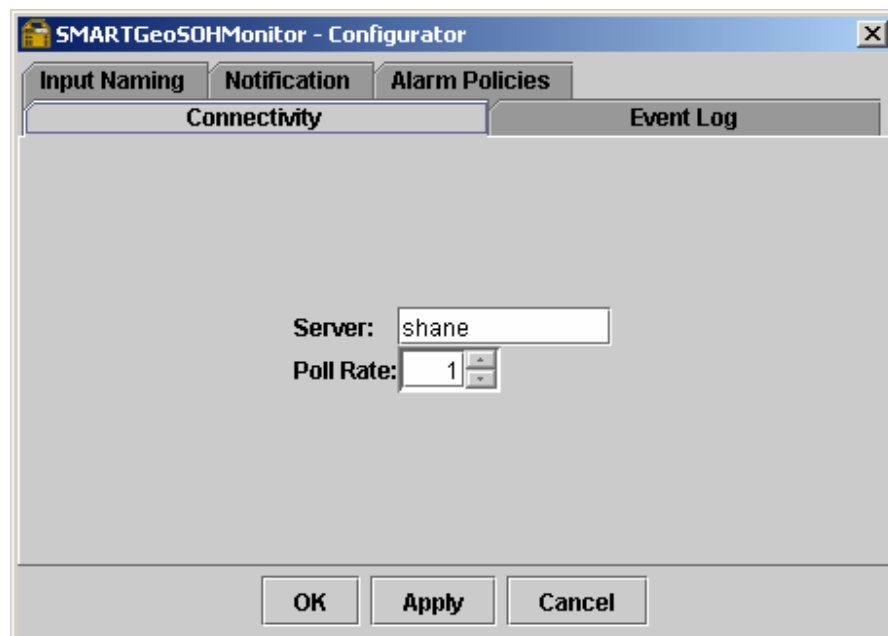

Figure 3-3. Connectivity Window
The Connectivity window (Figure 3-3) allows the user to select the Internet Protocol (IP) address or computer name where the SMARTGeoHub® DataBase resides. The SMARTGeoHub® DataBase receives the SMART-24 Digitizer data streams. It also allows you to select how often in seconds the monitor polls the database server for status information. After entering a selection, click **Apply**. Clicking **OK** closes the window, and clicking **Cancel** deletes the entries and closes the window.